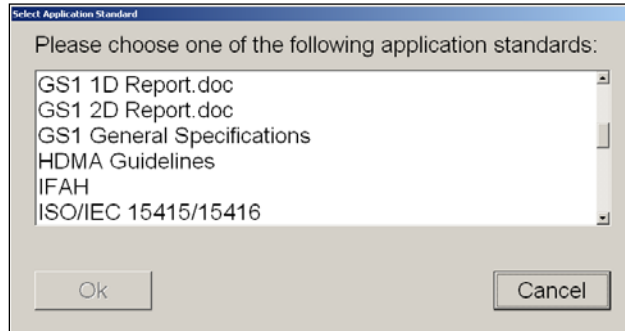

Figure 9: Choose an application standard
- A. Choose the appropriate application standards for the barcode symbologies on the label and click “Ok” to proceed to the “Grading” Tab to complete the setup (Figure 9).